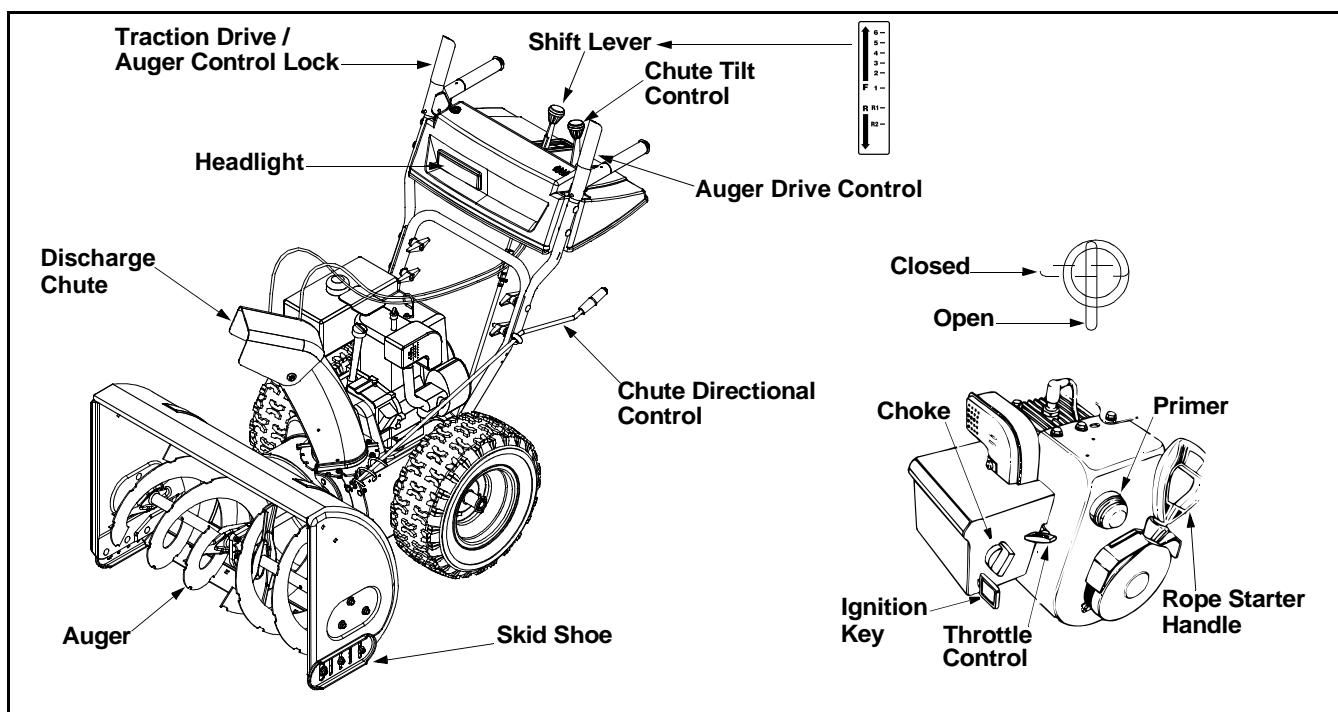

Figure 7
- Move the shift lever into sixth (6) position.
- With the traction control (refer to Figure 7) released, gently push the snow thrower forward, then pull it back. Disregarding the overall weight of the snow thrower, the machine should otherwise move freely.
The traction control is located on the right handle. Squeeze the traction control to engage the wheel drive. Release to stop. See Figure 7.
The auger drive control is located on the left handle. Squeeze the control grip to engage the augers. Release to stop the snow throwing action. (Traction control must also be released.) See Figure 7.
The shift lever is located in the center of the handle panel and is used to determine both ground speed and direction of travel. It can be moved into any of eight positions. See Figure 7.
The chute directional control is located on left side of the snow thrower. See Figure 7.
adjusting the angle of the chute assembly. Move the chute tilt control forward to decrease the distance and toward the rear to increase the distance. See Figure 7.
The position of the skid shoe is determined by the condition of the ground from where snow has to be removed. See Figure 7.
The ignition key must be inserted in the switch before the unit will start. Remove the ignition key when snow thrower is not in use. See Figure 7.
The throttle control is located on the engine. It regulates the speed of the engine. See Figure 7.
The fuel shut-off valve, located under fuel tank, controls fuel flow from tank. See Figure 7.
- Make certain the fuel cutoff valve is in the OPEN (vertical position). See Figure 7.
- Move throttle control up to FAST position. Insert ignition key into slot. See Figure 7. Be certain it snaps into place. **Do not turn key.**